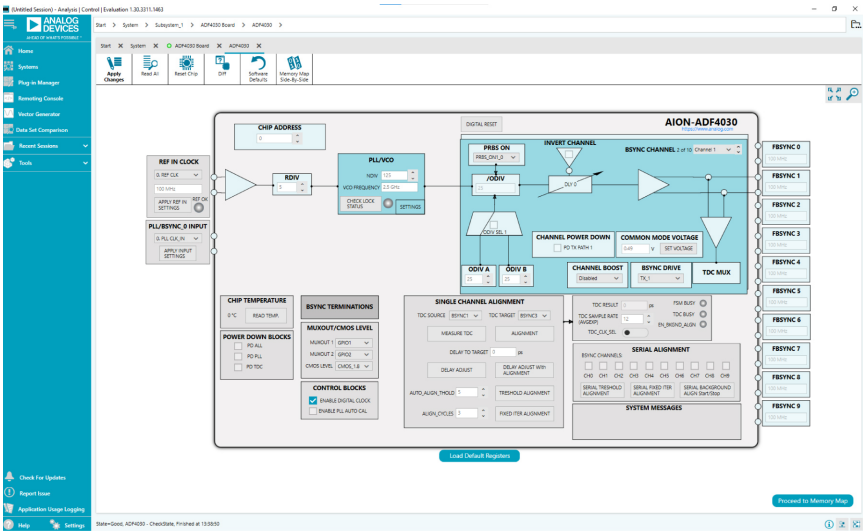

Figure 10. ACE User Interface After Launch
9. Double click **ADF4030** to open the main control window shown in Figure 10.